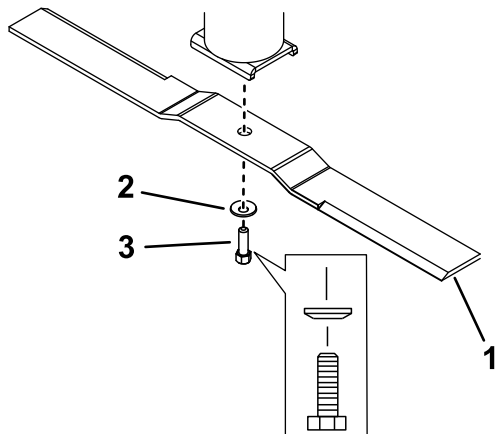

Figure 39
2. Remove the blade bolt, curved washer, and blade from the spindle cup assembly (Figure 39).
1. Install the blade onto the spindle shaft (Figure 39).
2. Install the curved washer (cupped side toward the blade) and blade bolt (Figure 39).